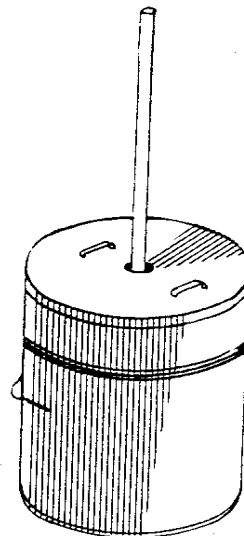

FIGURE 1
**Figures 1 to 4 show how this washer is made. The tub, lid and agitator are